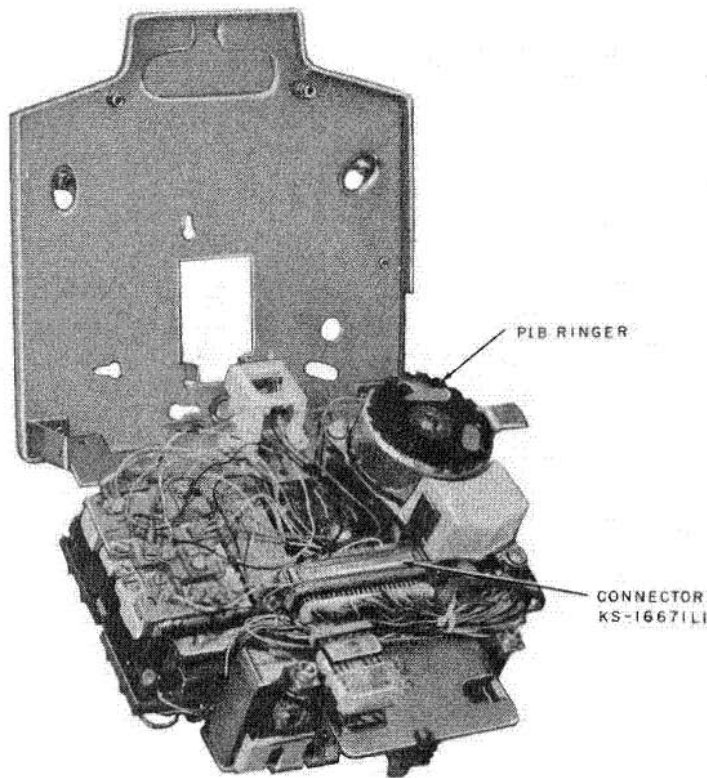

Fig. 6—851CM or 2851CM Telephone Set Showing KS-16671L1 Mounting Cord Connector
**3.09** The 851CM and 2851CM telephone sets are equipped with a KS-16671L1 connector (Fig. 6). An A25B connector cable is required to connect set to key equipment (Fig. 30 and 31).
**4.03** For sets equipped with the KS-16671L1 connector, (Fig. 6) an A25B connector cable is required.